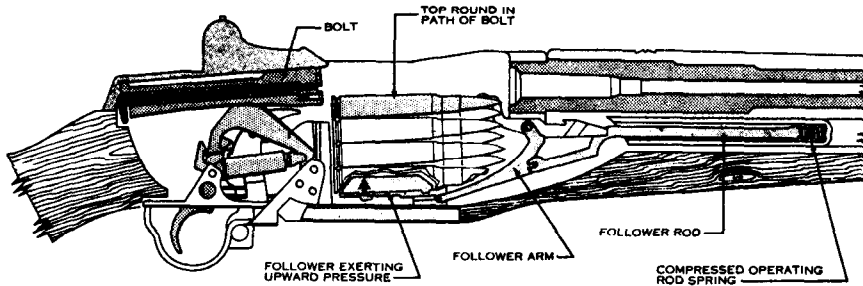

Figure 24. Position of parts when the bolt is in its rearmost position.
c. The cycle of operation is broken down into eight steps. These steps are listed below, together with a brief description of what actually occurs inside the rifle during each step. Assume that a full or partially filled clip has been loaded into the rifle and that the first round has been fired and the bolt is in its rearmost position (fig. 24).
- (1) *Feeding.* Feeding takes place when a round is moved into the path of the bolt. This is done by the follower assembly exerting an upward pressure on the bottom round in the clip. The follower assembly is continuously forced up by the pressure of the operating rod spring through the follower rod and follower arm (fig. 24).